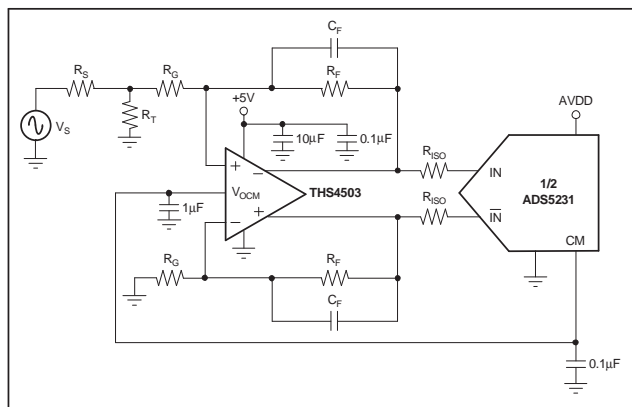

Figure 20. Using the THS4503 with the ADS5231
Applications that have a requirement for DC-coupling a differential amplifier, such as the THS4503, can be used to drive the ADS5231; this design is shown in Figure 20. The THS4503 amplifier easily allows a single-ended to differential conversion, which reduces component cost.
In addition, the V_{OCM} pin on the THS4503 can be directly tied to the common-mode pin (CM) of the ADS5231 to set up the necessary bias voltage for the converter inputs. In the circuit example shown in Figure 20, the THS4503 is configured for unity gain. If required, a higher gain can easily be achieved as well by adding small capacitors (such as 10pF) in parallel with the feedback resistors to create a low-pass filter. Since the THS4503 is driving a capacitive load, small series resistors in the output ensure stable operation. Further details of this and the overall operation of the THS4503 may be found in its product data sheet (available for download at www.ti.com). In general, differential amplifiers provide a high-performance driver solution for baseband applications, and other differential amplifier models may be selected depending on the system requirements.